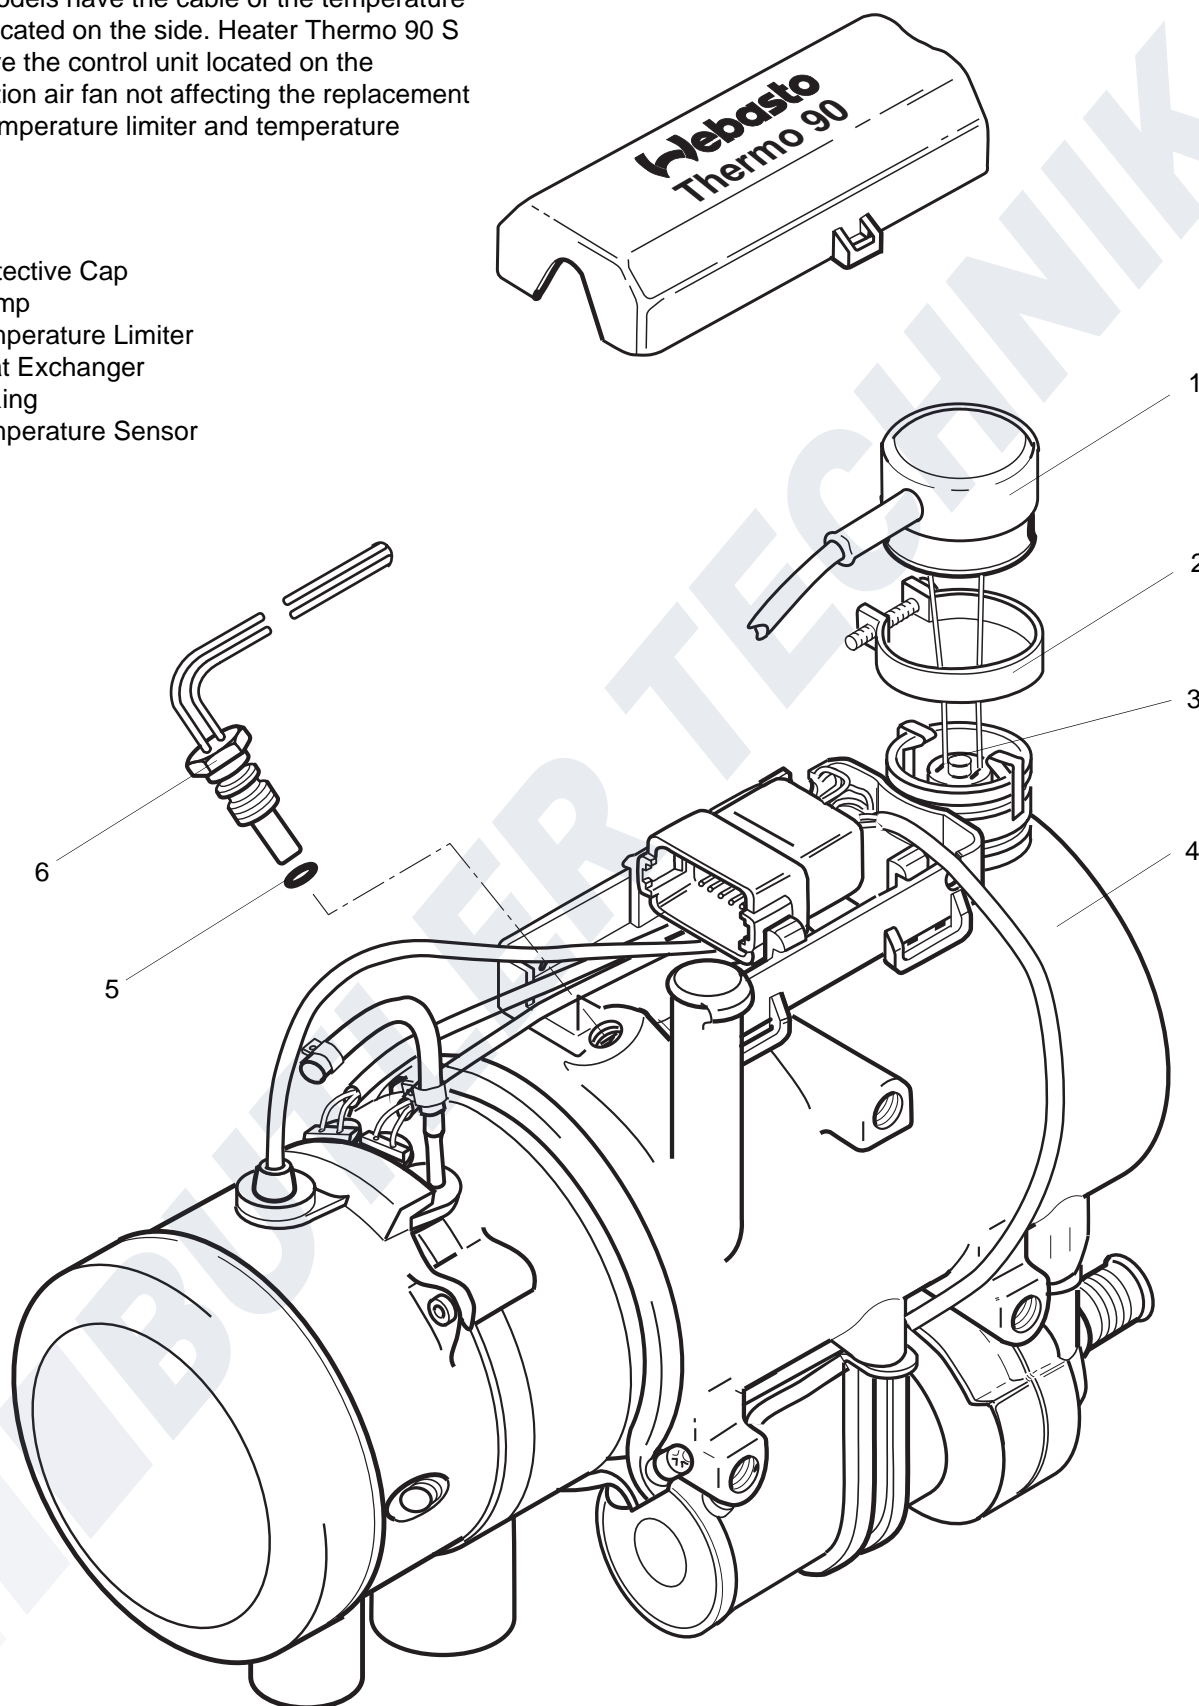

Fig. 903 Replacement of Temperature Limiter and Temperature Sensor
3. Remove clamp (2, Fig. 903) and withdraw protective cap (1).
4. Using screw driver, lever off retaining clip and remove temperature limiter (3).
1. Insert the temperature limiter (3, Fig 903) into the heat exchanger (4) and press down retaining clip.
3. Unscrew temperature sensor (6, Fig. 903) and remove together with O-ring (5).